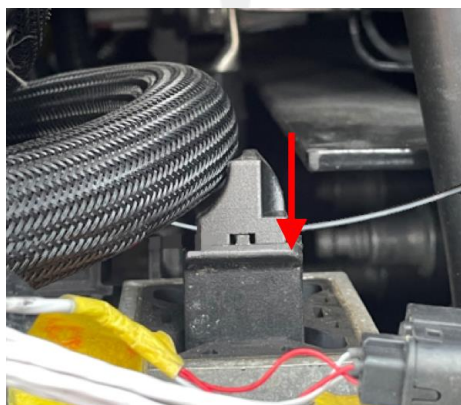

Figure 7
7. Position the coolant hose bracket in the LH CFM bracket, making sure the concave feature at the top of the coolant hose bracket supports the radiator outlet hose (Figure 7).